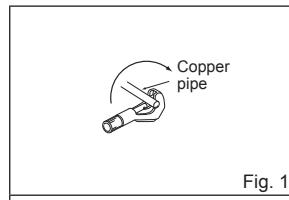

Fig. 1
- Cut the copper pipe correctly with pipe cutter. (Fig. 1, 2)